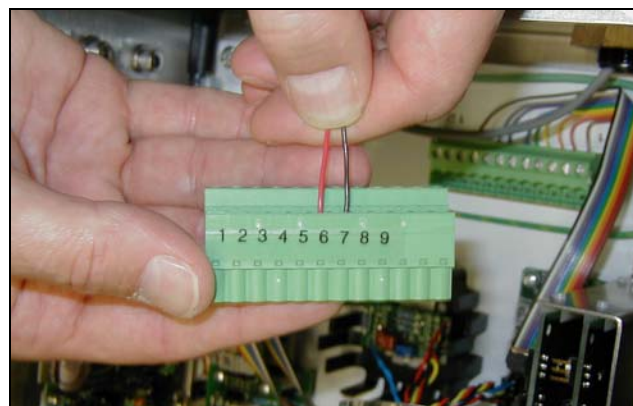

Figure 13: Insert signal wires into terminals
6. Connect the output wires to the desired terminals (see **Figure 13** on page 24).